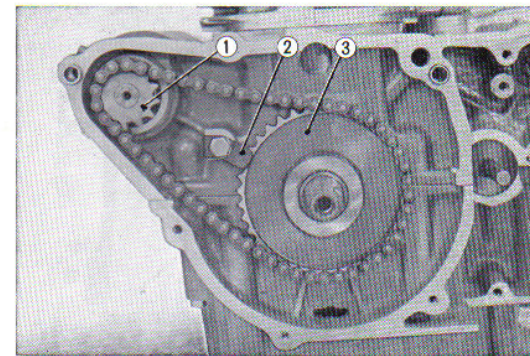

Fig. 3.92 Starting sprocket removing
4. Remove the starting sprocket set plate, and take out the starting sprocket together with the starting motor sprocket. (Fig. 3.92)